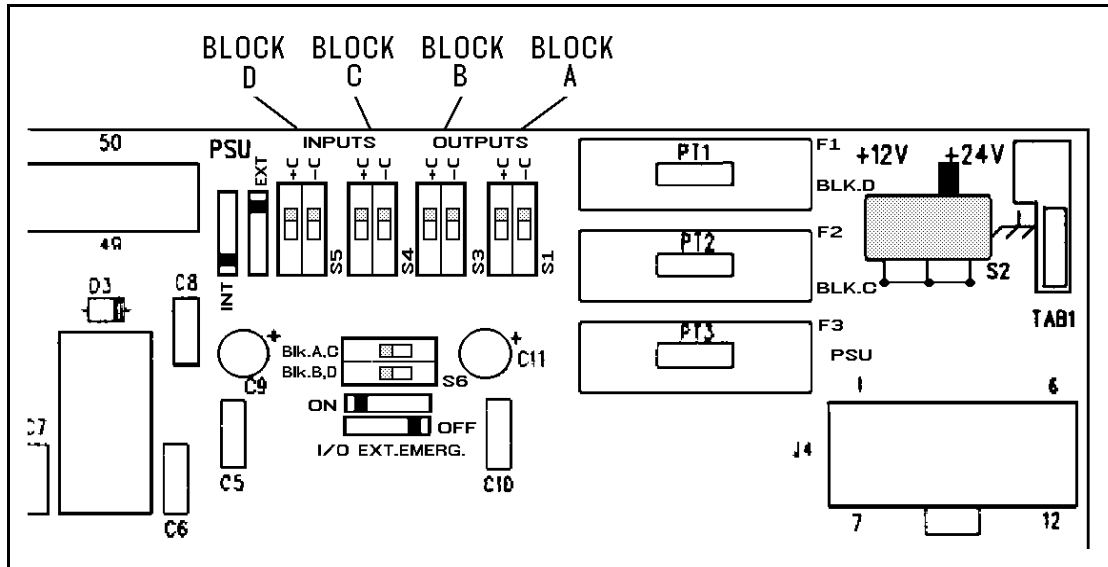

Figure 4-3: Int/Ext Reference Switches -- I/O Board (REV.1)
- Be sure the input block's reference switches are in the EXTERNAL position (default setting). These switches are located on the I/O board, as shown in Figure 4-3/4-3A.
If your installation includes an external device which contains opto-isolators on its outputs, you may choose to override the controller's optical isolation to a particular input block. This is accomplished by setting the controller's reference switches to the INTERNAL position, as indicated in Figure 4-3.
If your installation includes an external device which contains opto-isolators on its inputs, you may choose to override the controller's optical isolation to a particular output block. This is accomplished by setting the controller's reference switches to the INTERNAL position, as indicated in Figure 4-3.
When using an open collector output block in its INTERNAL mode, the output voltage level can be set to either +12V or +24V. This is accomplished by setting the switch on the I/O board, as seen in Figure 4-3.